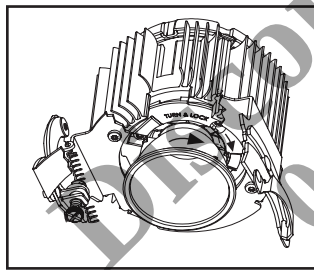
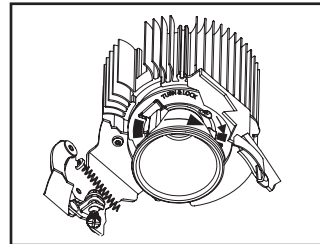

Figure 14. Turn
Figure 15. Lock
3. Turn clockwise (Figure 14.) to engage and lock (Figure 15.).